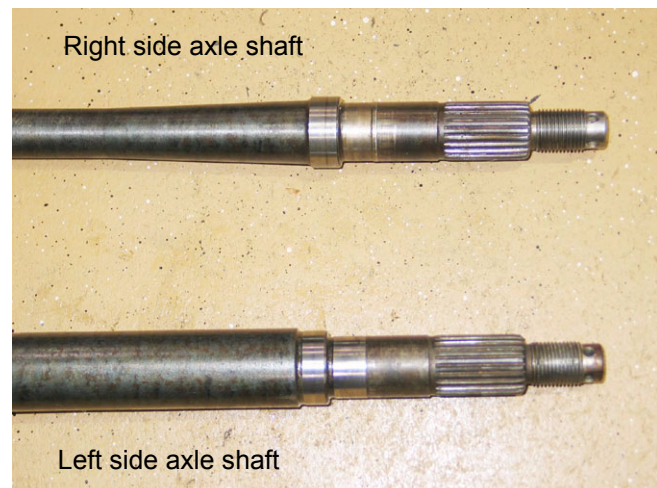

Figure 9.19
- 9.19. The left side axle shaft is thicker in cross section to the inside of the seal surface than the right side axle is. The right side axle will not fit through the seal that is behind the bearing. See Figure 9.19.